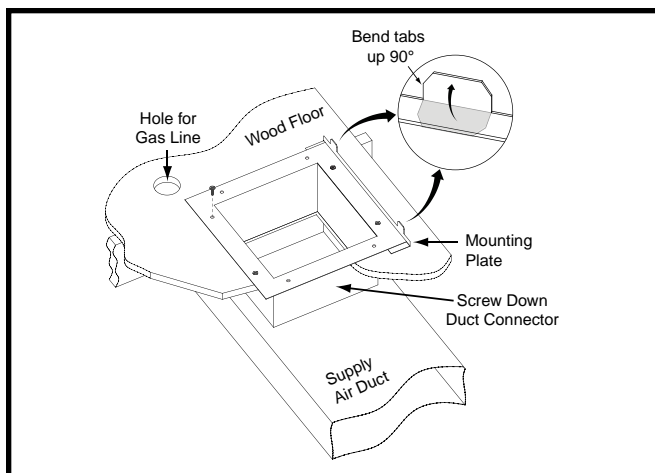

Figure 18. Screw-Down Duct Connector
1. Bend both tabs (Fig. 18) on the mounting plate up 90°.
3. Locate the screw down duct connector over the duct and carefully lower it into place. See Figure 18.